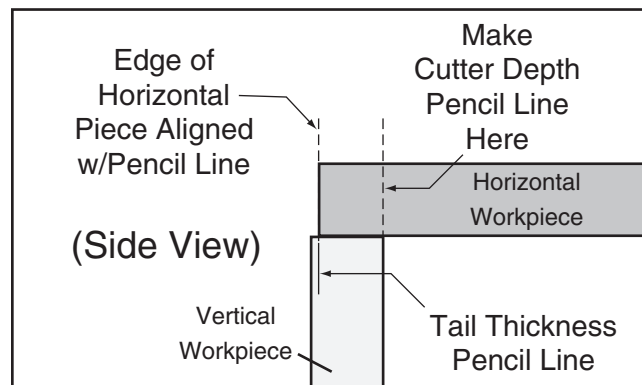

Figure 42. Marking horizontal workpiece to set the cutter depth.
2. Copy the "Tail Thickness" dimension from the vertical workpiece to the horizontal workpiece, as shown in **Figure 42**.